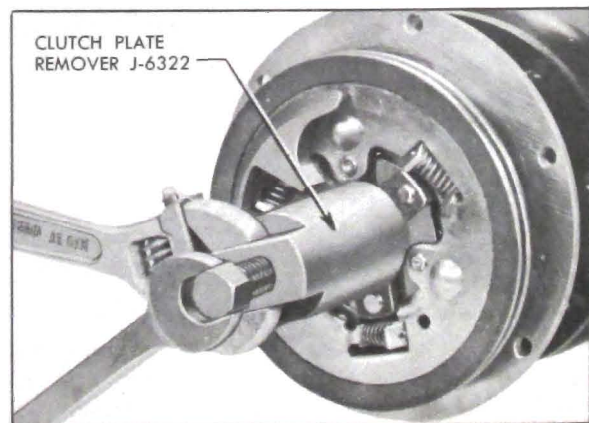

Figure 11-50—Removing Clutch Plates
7. The clutch plate assembly can now be removed by screwing on the special Clutch Plate Puller nut into which the Clutch Plate Puller screw has been assembled. (Tool J-6322). The cone point of this screw will center in the end of the compressor shaft. Rotate the screw with a wrench until the clutch plate assembly is pulled off of the shaft and woodruff key. See figure 11-50.